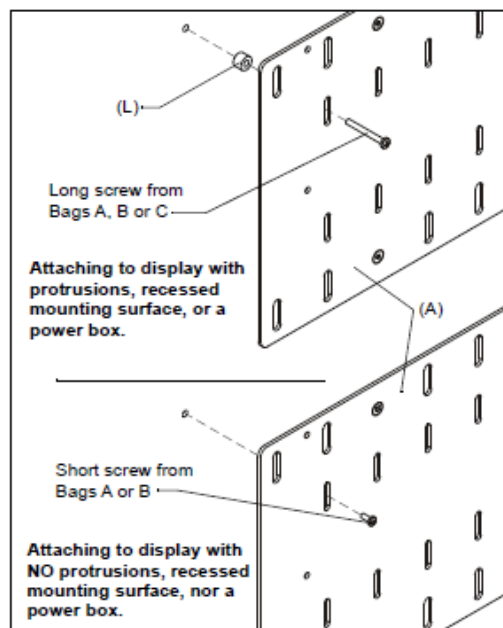

Figure 1
If the display has a recessed mounting surface, protrusions or a power box, a spacer must be placed between the display and MSBV bracket (A) and longer mounting hardware must be used. **(See Figure 1)**